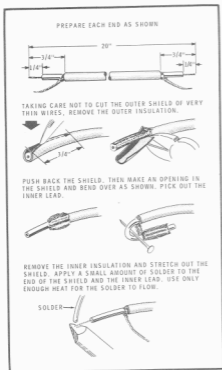

Figure 3-4
Refer to Figure 3-4 for the following steps.
- () Prepare the ends of the cable as before. See Figure 3-4.